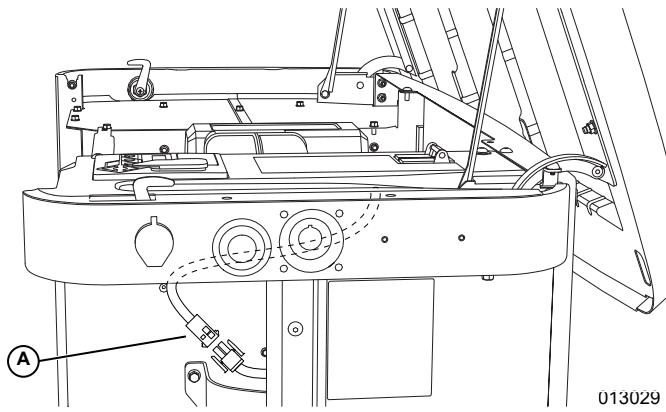

Figure 1-34. T1 Connection
2. See Figure 1-34. Disconnect AC power at the T1 connection (A).
2. See Figure 1-34. Connect AC power at the T1 connection.